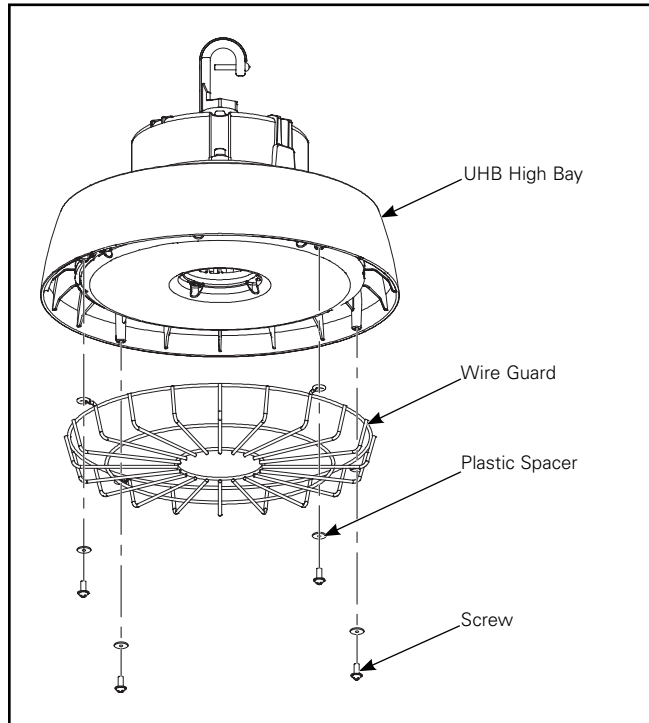

Figure 5.
1. Install plastic spacers on screws, then feed through eyelet on wire guard and screw into the fixture. (Figure 5.)